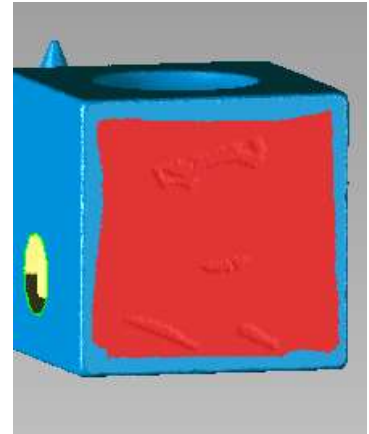

Figure 64
2. Rotate to the view and make the selection shown in **Figure 64**.